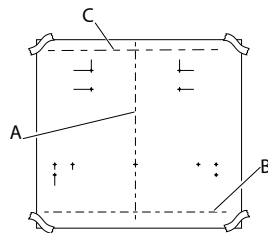

Fig. 2
3. Cut the delimiting line from the template and place it on the wall, aligning the base line and the center line with those marked on the wall, tape it with adhesive tape. (Fig. 2)